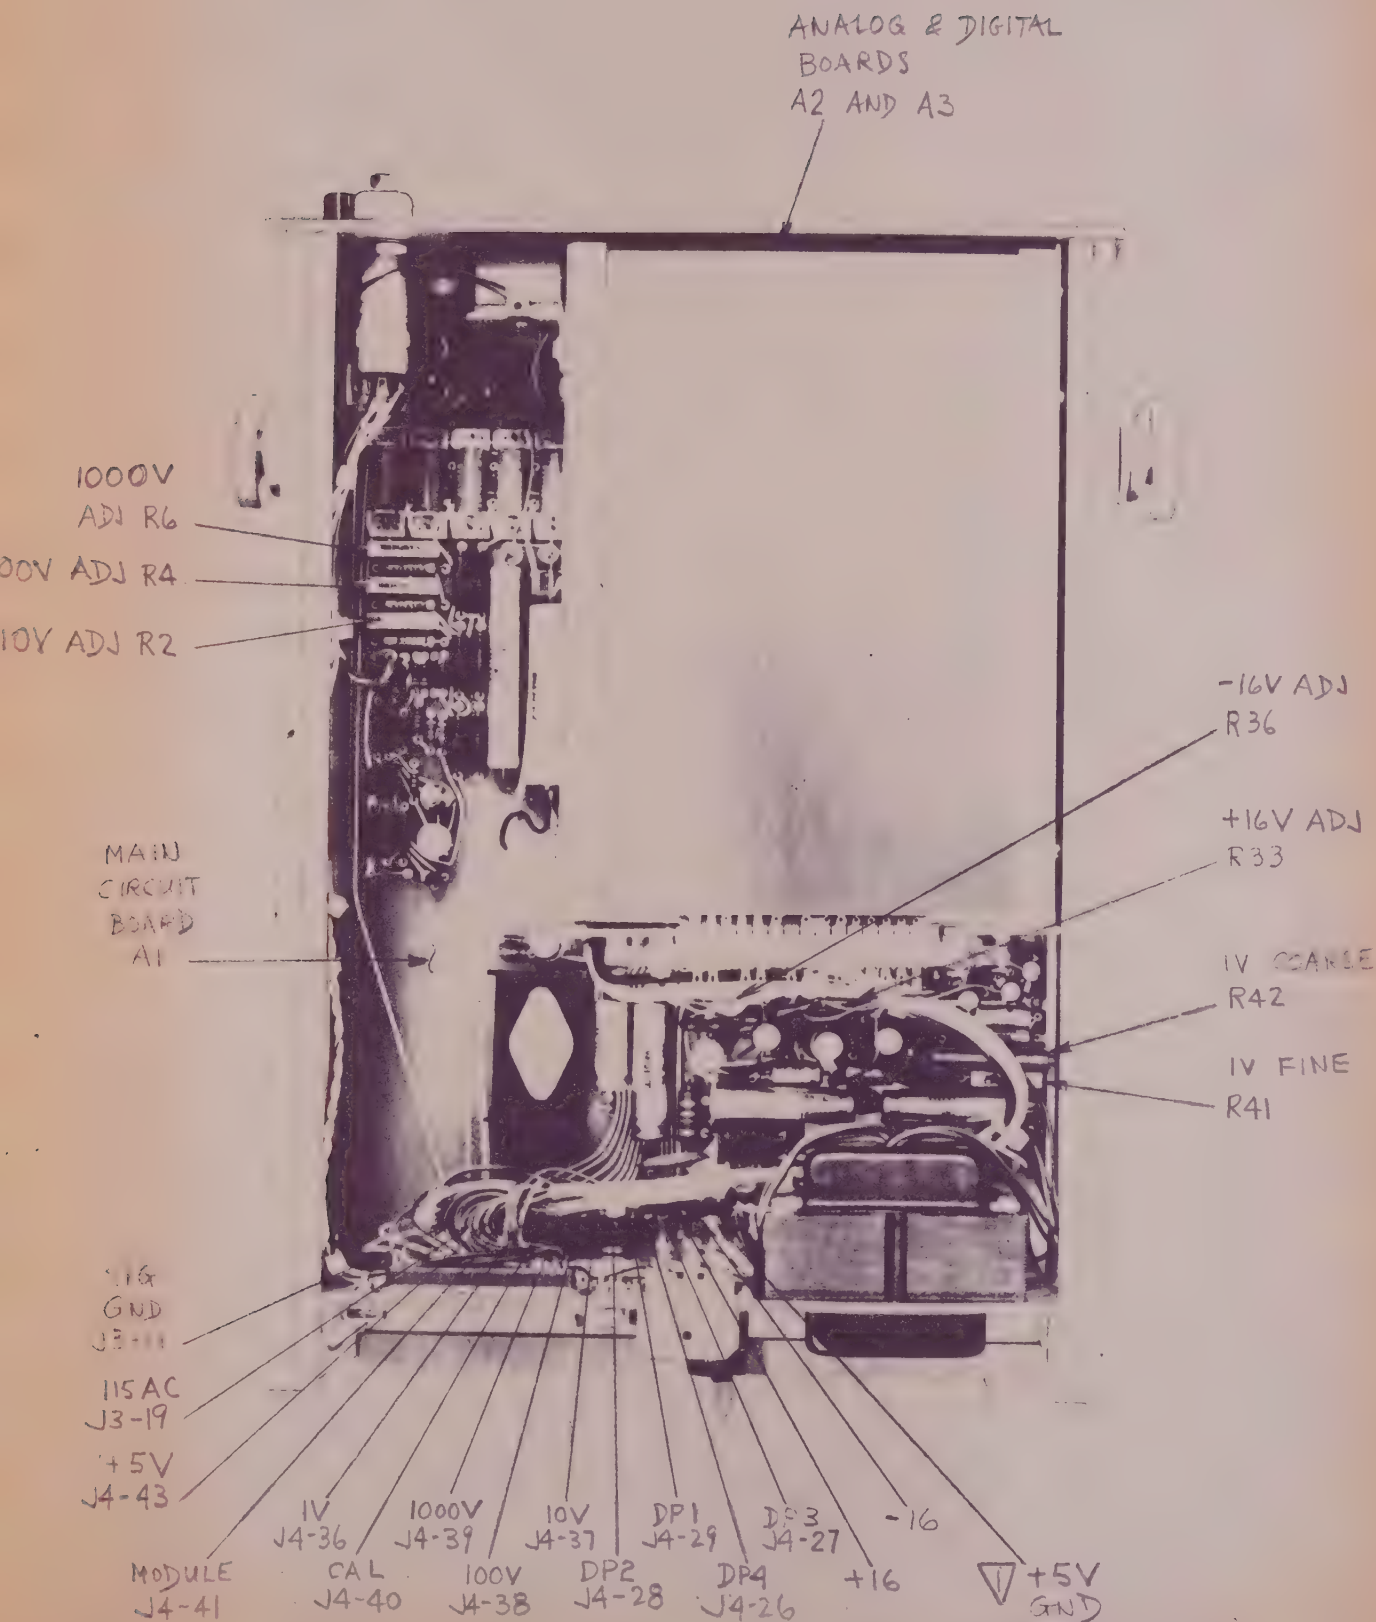

Figure 4-1 Chassis and Main Circuit Board (A1), Adjustments and Test Points
4-11.1. The location of adjustment potentiometers and their functions are illustrated in Figure 4-1. The main chassis and main circuit board. Significant test points are also called out.
k. Switch to the 10V range. Apply +15.000 volts to the DVM. Adjust potentiometer A1R2 (figure 4-1) for a readout of +15.000 volts ± 1 digit.
b. Depress the CAL pushbutton. Adjust fine adjust potentiometer A1R41 (figure 4-1) to the center of its range.